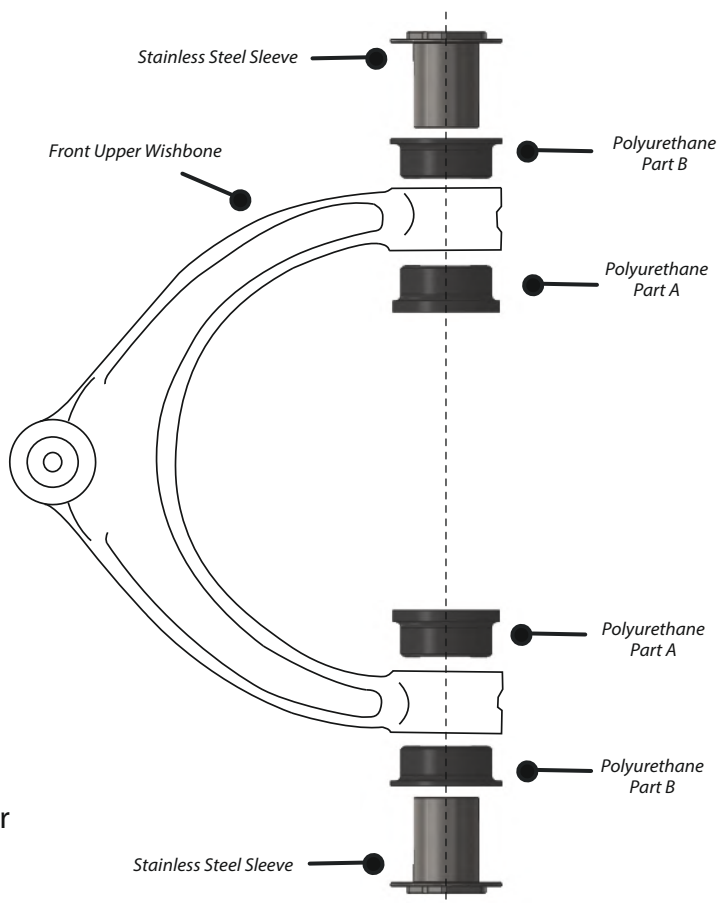

Figure 1
3. Insert polyurethane B bushes (smaller lip) on the inside of wishbone arm, into the bore, see fig 1.
4. Insert polyurethane A bushes (larger lip) on the outside of wishbone arm, into the bore, see fig 1.